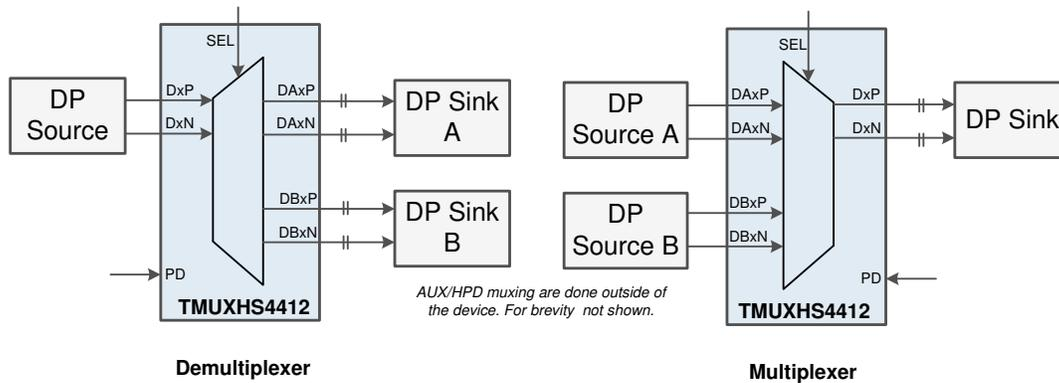

Figure 7-9. DisplayPort Main Link Demultiplexing/Multiplexing
Figure 7-9 shows an application block diagram to implement DisplayPort (DP) main link switch either in mux or demux configuration. Note DP link also has sideband signals such as Auxiliary (AUX) and Hot Plug Detect (HPD) which must be switched outside of this device.